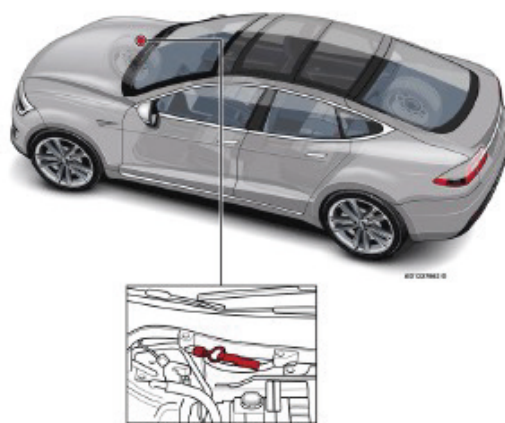

Figure 3. First Responder Loop
7) Disconnect the First Responder Loop **figure 3** and wait for 2 minutes.